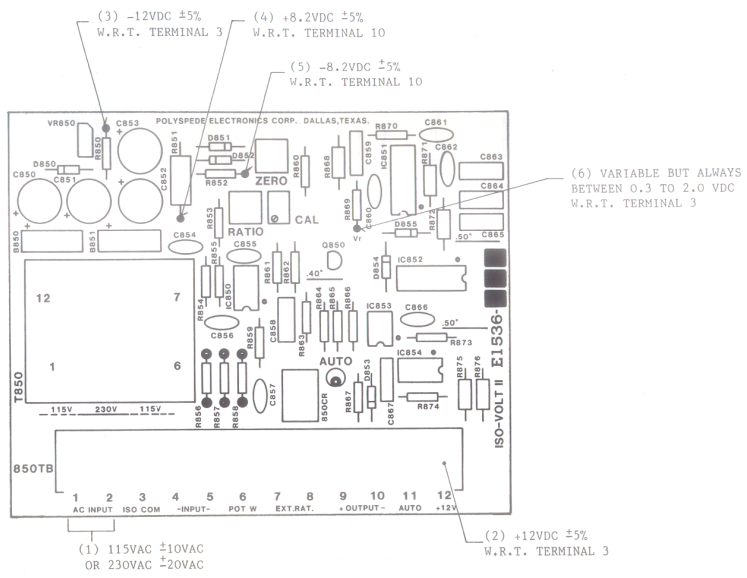

FIGURE 5
Using a DVM (digital voltmeter), verify correct voltages at the test points as indicated in Figure 5. When measuring DC voltages, use correct meter polarity, i.e., the common meter lead should be connected to the reference terminals 850TB-3 or 850TB-10 as indicated in Figure 5.
8.2.3 If reading (6) is outside the specification range indicated in Figure 5, check the input signal between terminal 4 and 5 on 850TB. Refer to Table I in schematic E1536-000-ES and verify that the input signal is within range for the particular assembly number. If the input signal is appropriate then it is likely that the board is faulty and may not calibrate properly.